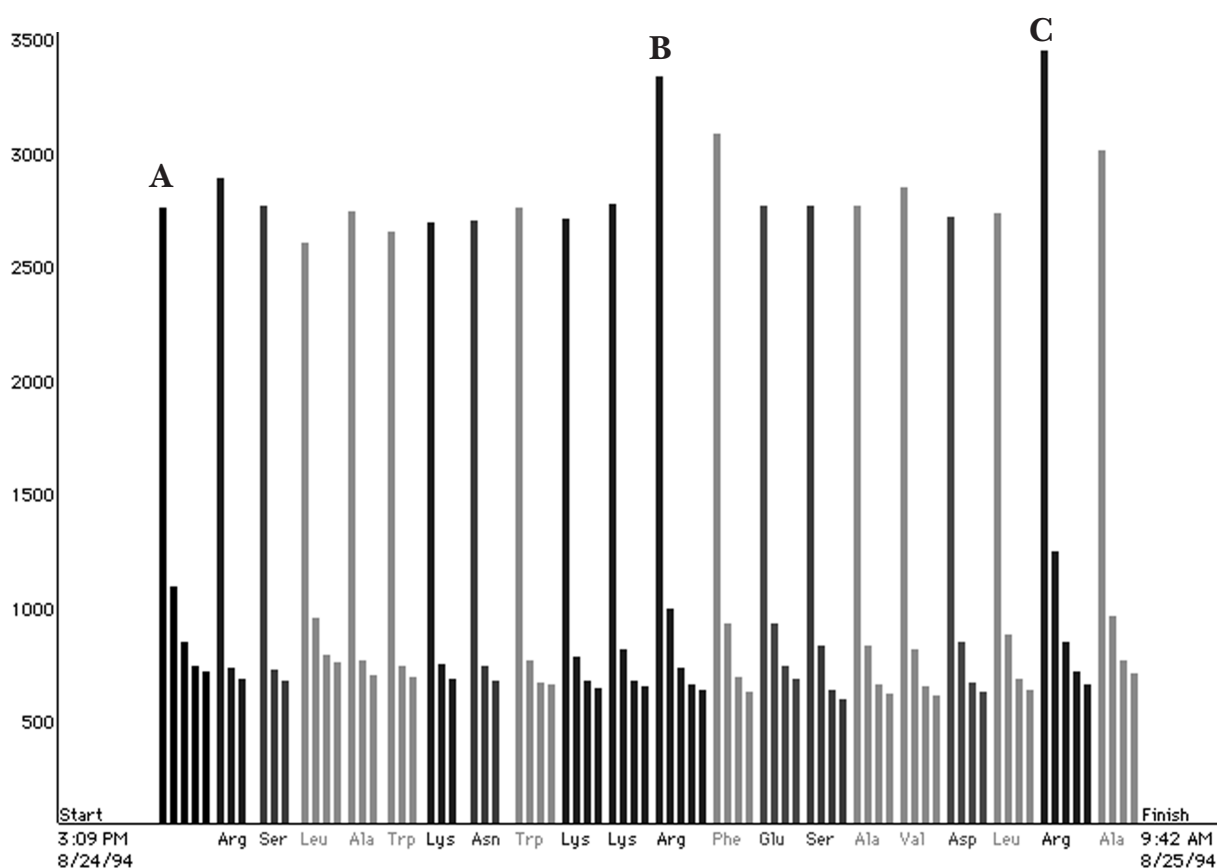

Figure 6-4. Extended deprotection with starting resin
In Figure 6-4, the initial deprotection (A) has five peaks, an unnecessarily extended deprotection. The resin used in this synthesis releases conductive species, especially during the initial deprotection. This problem is a result of the resin's manufacture and cannot be corrected by the user.
Figure 6-4 also illustrates the larger-than-normal first deprotection value of Fmoc-Arg(PMC)-OH, the 11th and 19th residues coupled (B and C). This symptom is specific to Arginine and is not entirely understood from a chemical point of view.